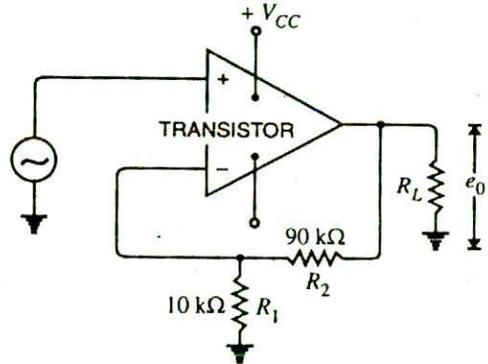

Fig. 15.9
**Example 15.9.** Fig. 15.9 shows the circuit of a negative voltage feedback amplifier. If without feedback,  $A_v = 10,000$ ,  $Z_{in} = 10 \text{ k}\Omega$ ,  $Z_{out} = 100 \Omega$ , find :